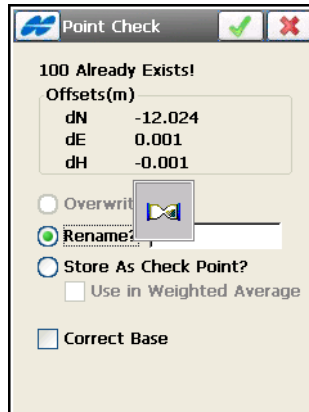

Figure 8-5. Correct Base
2. In the *Duplicate Points* screen, check and enable the *Correct Base* box (Figure 8-5).